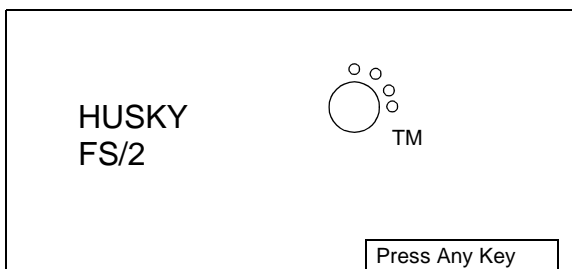

Figure A.1: FS/2 or FS/3 Opening Screen
4. If the FS/2 or FS/3 is being used for the first time, or if the FS/2 or FS/3 has been rebooted since its last use, the FS/2 or FS/3 opening screen appears as shown in Figure A.1. If this is the case, go to step 7, otherwise go to step 5.